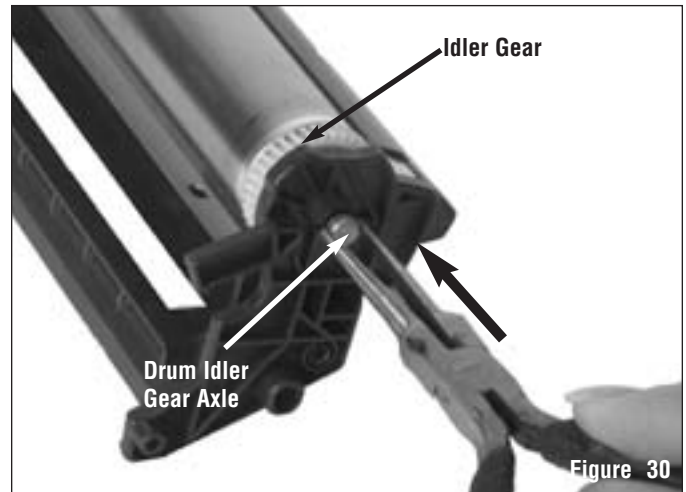

Figure 30
- d. Install the Drum Idler Gear Axle in to the cartridge body as shown in figure 30.